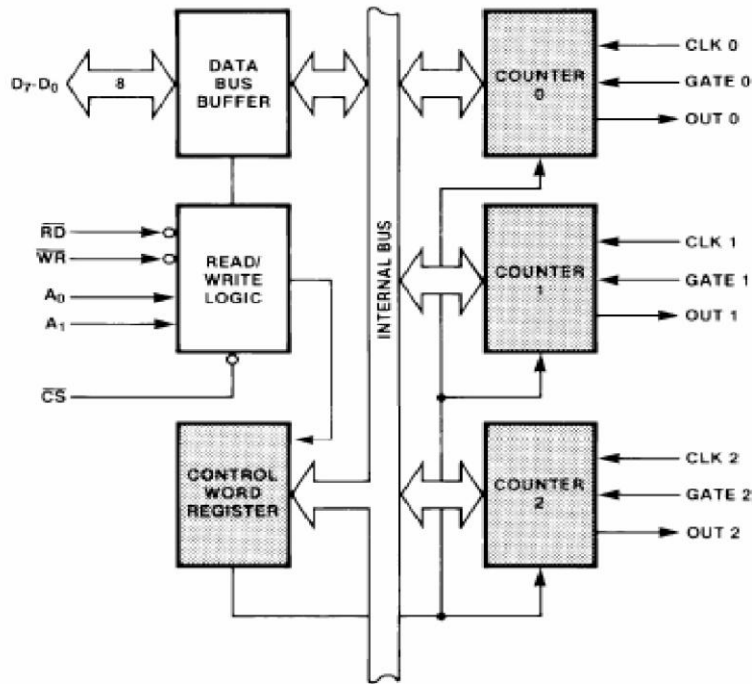

Figure 4. Block Diagram Showing Control Word Register and Counter Functions
- **CONTROL WORD REGISTER** :The Control Word Register (see Figure 4) is selected by the Read/Write Logic when $A_1, A_0 = 11$. If the CPU then does a write operation to the 8254, the data is stored in the Control Word Register and is interpreted as a Control Word used to define the operation of the Counters.